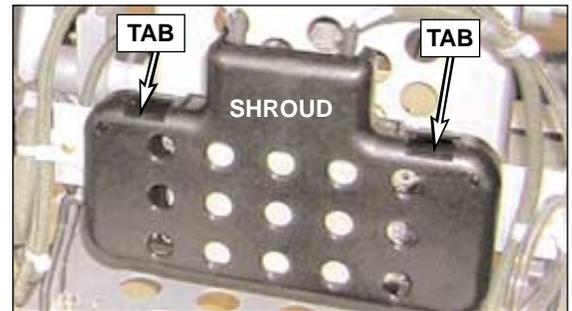

FIG. 316: SHROUD, TEL. BOX -
- (1) Press the rear part of both tabs and raise them. Open shroud (see fig. 316).